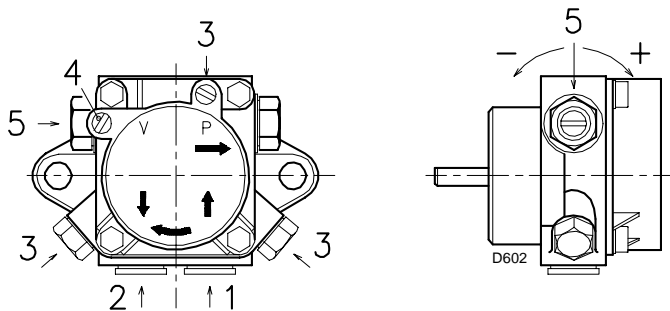

Fig. 22
For the priming pump loosen the screw 3)(Fig. 22) in order to bleed off the air contained in the suction line and wait until the fuel flows out.
Key (Fig. 22)
- In order for self-priming to take place, one of the screws 3)(Fig. 22) of the pump must be loosened in order to bleed off the air contained in the suction line.
14 bar: in order to increase fuel delivery or to ensure firings even at temperatures of less than 0°C. In order to adjust pump pressure, use the screw 5)(Fig. 22 on page 21).